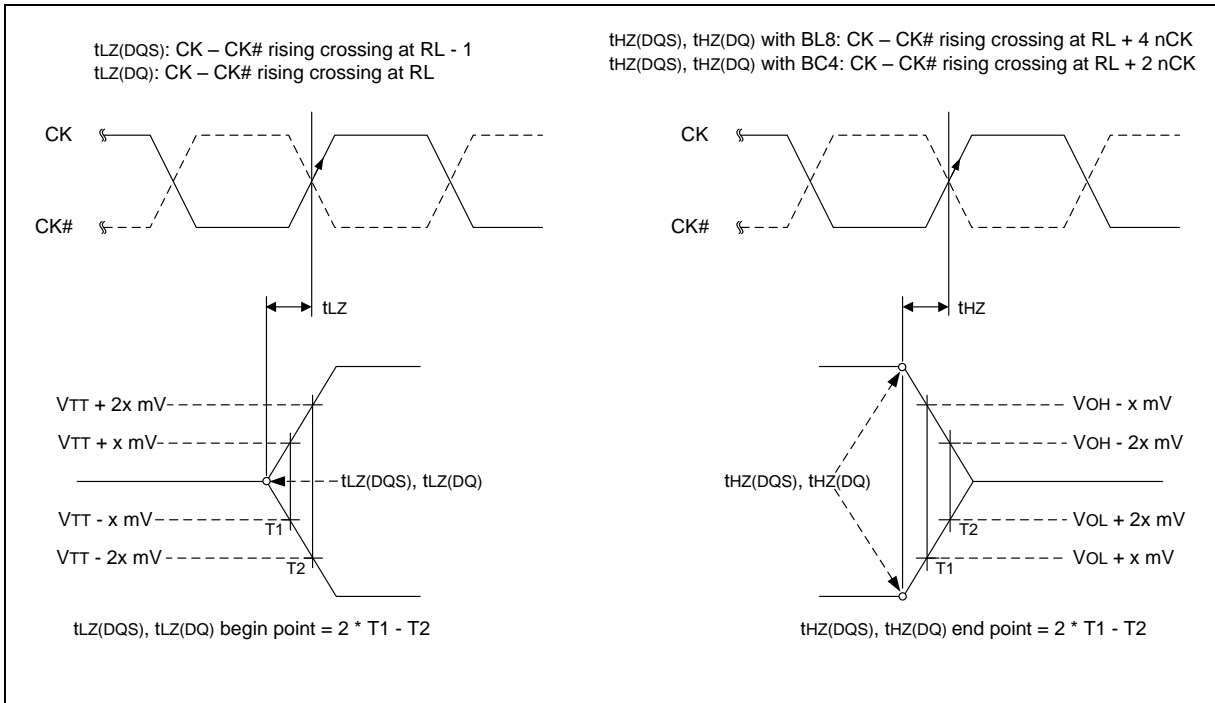

Figure 26 – tLZ and tHZ method for calculating transitions and endpoints
tLZ(DQS), tHZ(DQS) for preamble/postamble (see section 8.13.2.3 and Figure 26).
8.13.2.3 tLZ(DQS), tLZ(DQ), tHZ(DQS), tHZ(DQ) Calculation
tHZ and tLZ transitions occur in the same time window as valid data transitions. These parameters are referenced to a specific voltage level that specifies when the device output is no longer driving tHZ(DQS) and tHZ(DQ), or begins driving tLZ(DQS), tLZ(DQ). Figure 26 shows a method to calculate the point when the device is no longer driving tHZ(DQS) and tHZ(DQ), or begins driving tLZ(DQS), tLZ(DQ), by measuring the signal at two different voltages. The actual voltage measurement points are not critical as long as the calculation is consistent. The parameters tLZ(DQS), tLZ(DQ), tHZ(DQS), and tHZ(DQ) are defined as singled ended.